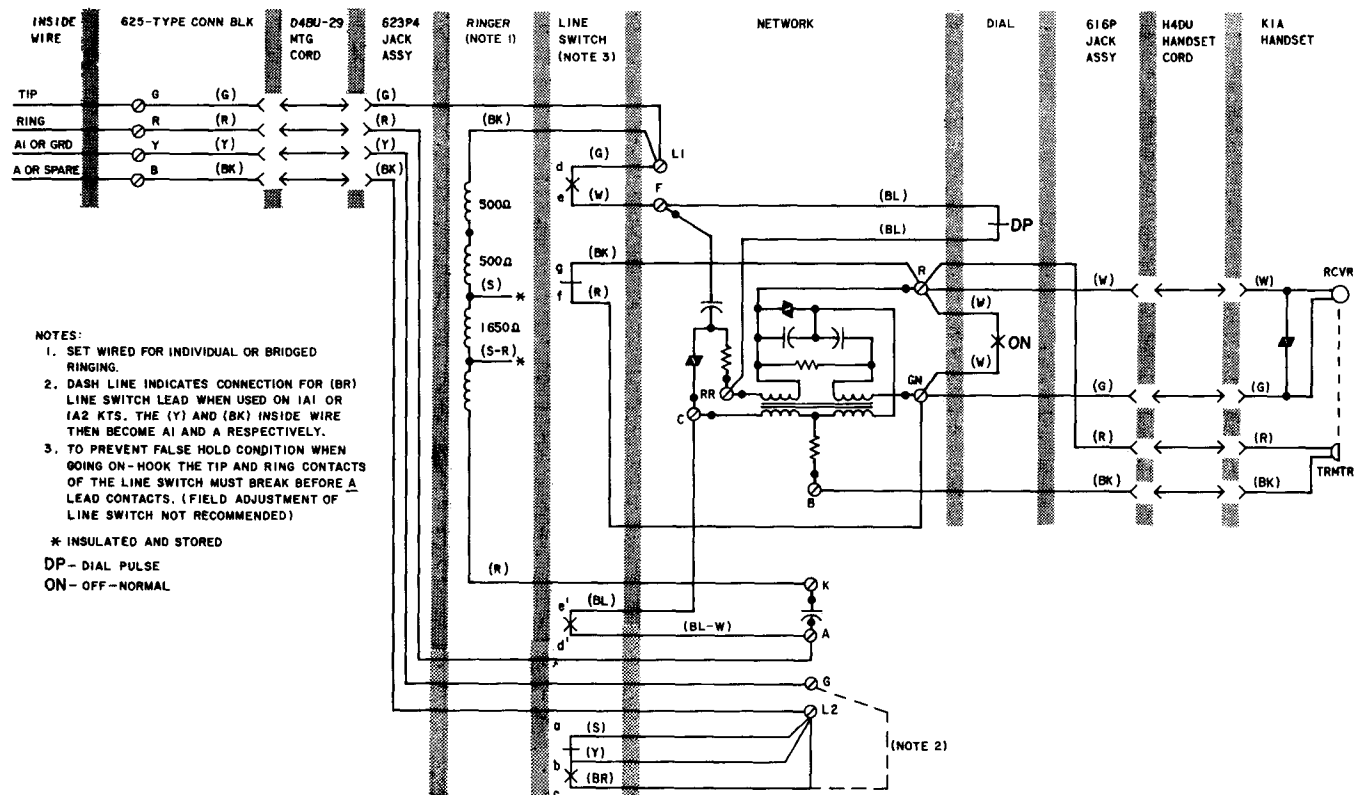

Fig. 7—9900B Telephone Set, Connections for Key or Nonkey
**Note:** For 900B or 2900B telephone set, the only modification needed is to move (BR) line switch lead from network terminal L2 and connect to terminal G. See Fig. 7 and 10.